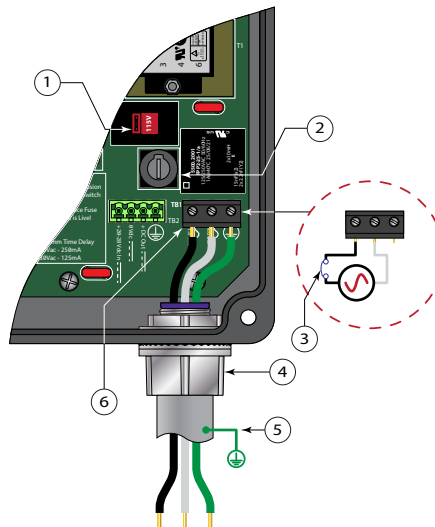

Figure 35: NEMA 4 AC power connections
1. Verify that switch S1, the AC power selection switch, is set to the appropriate line voltage. The RCTN can be set for either 115V AC or 230V AC. See *Figure 35*.
3. Connect power to the screw terminal block TB1 in the RCT1000 transmitter using the conduit hole on the right side of the enclosure. Connect 115 or 230V AC, AC neutral and protective ground to the TB1 terminals referenced in *Figure 35*. Do not operate without a protective (earth) ground connection. Install using wiring practices that conform to regional, local and national codes (for example, The National Electrical Code Handbook in the U.S.; Canadian Electric (CE) Code in Canada).
4. See *Figure 35* for AC connection schematic. Terminal blocks in the RCT1000 accommodate wire gauges up to 14 AWG.